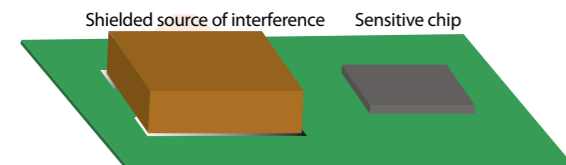

Figure 15.1 : Shielding at the source
**Level I** The component on the PCB is shielded by a can. Shielding at the source. (Fig. 15.1)